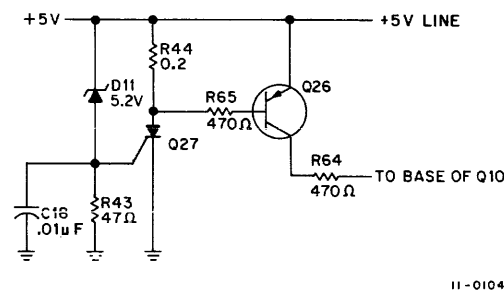

Figure 2-9 Overvoltage Crowbar Circuit
2.4.1.2 Overvoltage Crowbar Circuit – The overvoltage crowbar circuit schematic is shown in Figure 2-9. Under normal conditions, the trigger input to the SCR (Q27) is at ground because the voltage across zener diode D11 is too small to cause it to conduct. As the +5V line approaches 6V, zener diode D11 conducts and the voltage drop across resistor R43 draws gate current and triggers the SCR. The SCR shorts the +5V line to ground through resistor R44, which is a current-limiting resistor. The SCR remains on until capacitors C12, C14, and C16 discharge.